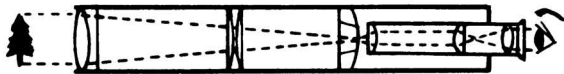

Fig. 2-9 The telescope on an optical level. (David White Instruments.)
1. *Telescope* (Fig. 2-9). The telescope is a precision-made optical sighting device. It has a set of carefully ground and polished lenses. They produce a clear, sharp, magnified image. The magnification of a telescope is described as its power. An 18-power telescope will make a distant object appear 18 times closer than when viewed with the naked eye. Crosshairs in the telescope permit the object sighted on to be centered exactly in the field of view.